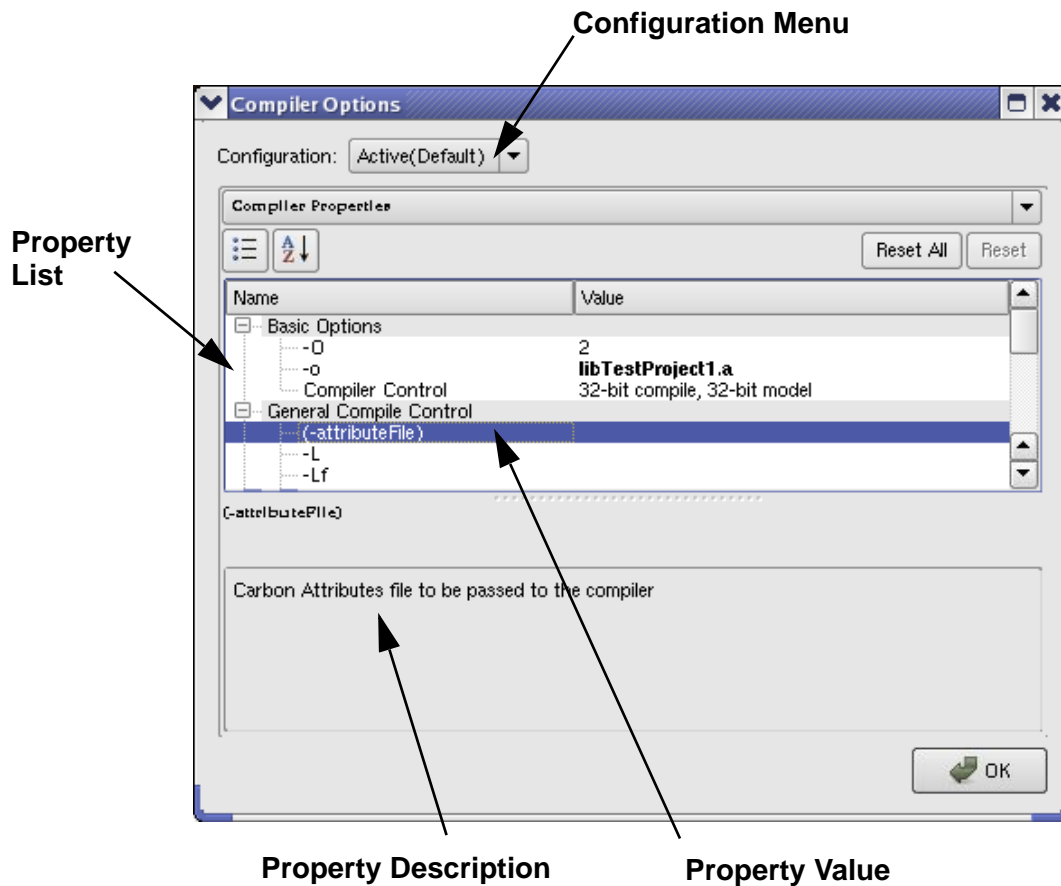

Figure 2-12 Compiler Options Dialog Box
1. From the *Project* menu, select *Compiler Settings* to display the *Compiler Options* dialog, shown in Figure 2-12.